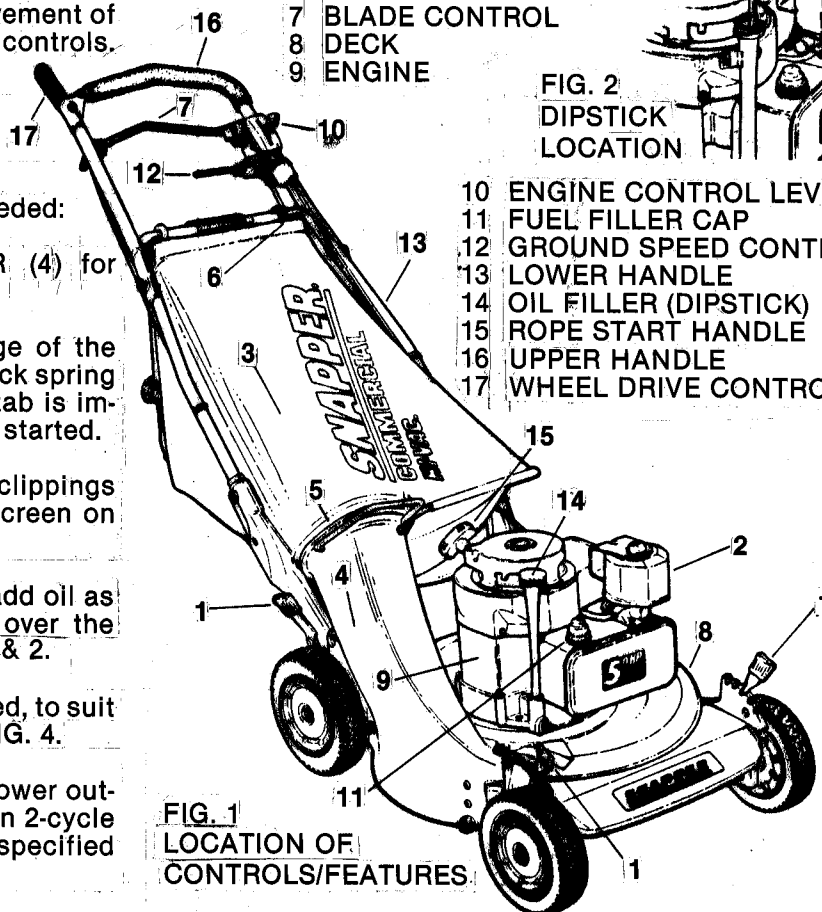

FIG. 1
The engine (and blade) is stopped by releasing the **BLADE CONTROL** (7) or by pulling the **ENGINE CONTROL** lever (10) rearward to the **STOP** position. On self-propelled models, releasing the **WHEEL DRIVE** control (17) stops the forward movement of the mower. Refer to FIG. 1 for locations of controls.
- **CHECK** guards, **BAG** (3), **BAG ADAPTOR** (4) for proper position and tightness.
- **CHECK** oil level in 4-cycle engines and add oil as needed to bring the level up to but not over the dipstick (14) "FULL" mark. Refer to FIG. 1 & 2.
1. Move **ENGINE CONTROL** lever to **CHOKE** position. Refer to FIG. 1.